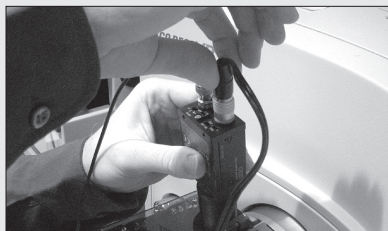

Figure 4.11 Connect the power cable to the camera
3. Connect the camera power supply to the high-resolution CCD camera (Figure 4.11). Plug the other end of the cable into an electrical outlet (again, preferably one with a suitable surge protector).